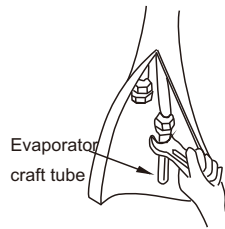

Figure 2
- 3 Please break the evaporator craft tube with pincers before connecting. After exhausting the inside air, use the wrench to twist down the bottom nut of connecting tube of the evaporator. (figure 2)